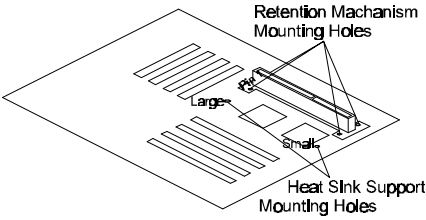

Figure 2-8
1. Finds out the Retention Mechanism (RM) Mounting Holes and "Pin 1" mark of Slot 1 on HOT-641/P main board. (Refer to Figure 2-8)
1. Finds out the Heat Sink Support (HSS) Mounting Holes on HOT-641/P main board. Notice that one hole is larger than the other hole. (Refer to Figure 2-8)